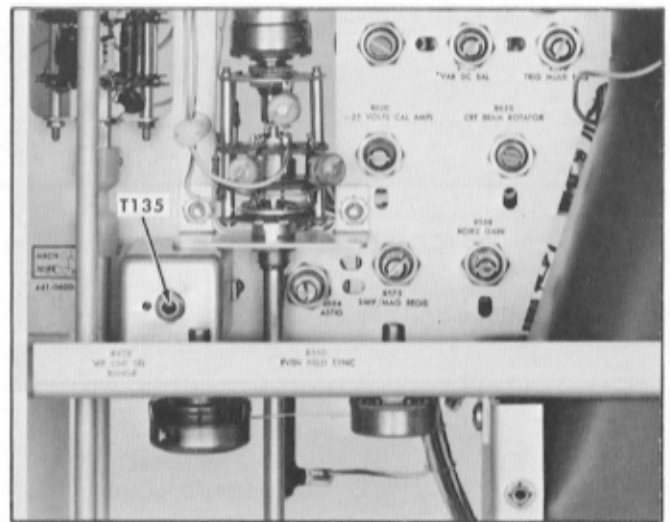

Fig. 6-36. Location of transformer T135.
g. Adjust the bottom powdered-iron slug in T135 (see Fig. 6-36) to obtain 100 IEE units of vertical deflection.